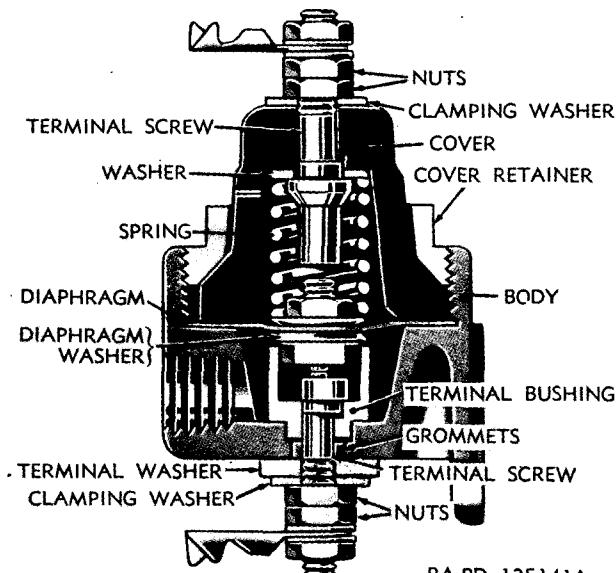

Figure 220. Type LP-2 low pressure warning switch—sectional view.
- a. Unscrew cover from body or unscrew cover retainer (fig. 220). Remove cover and lift out spring and diaphragm assembly.
- (2) *Type LP-2* (figs. 220 and 223). Place terminal bushing over **D** shaped shoulder on lower terminal. Position terminal and bushing in body and install grommets. Install terminal washer, clamping washer, nut, another nut as a lock nut, and tighten.
- (2) *Type LP-2* (fig. 220). Place plain washer over upper terminal screw and insert screw in cover. Install clamping washer, nut, and tighten. Install another nut as lock nut and tighten.
- (2) *Type LP-2* (figs. 220 and 223). Place diaphragm on diaphragm screw. Install diaphragm washer with rounded edge next to diaphragm and secure with nut. Tighten nut just enough to make an airtight seal. If this nut is too tight, diaphragm will be distorted.